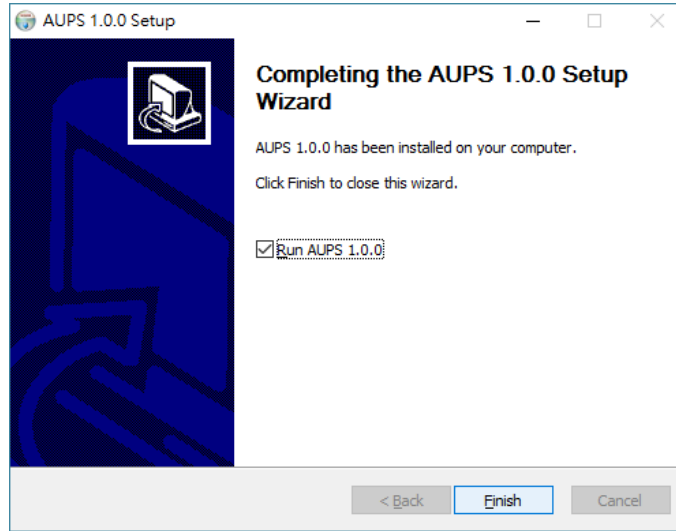

Figure 4-10: Installation Complete
Step 4: The Installation Complete window appears (**Figure 4-10**). Click **Finish** to exit.